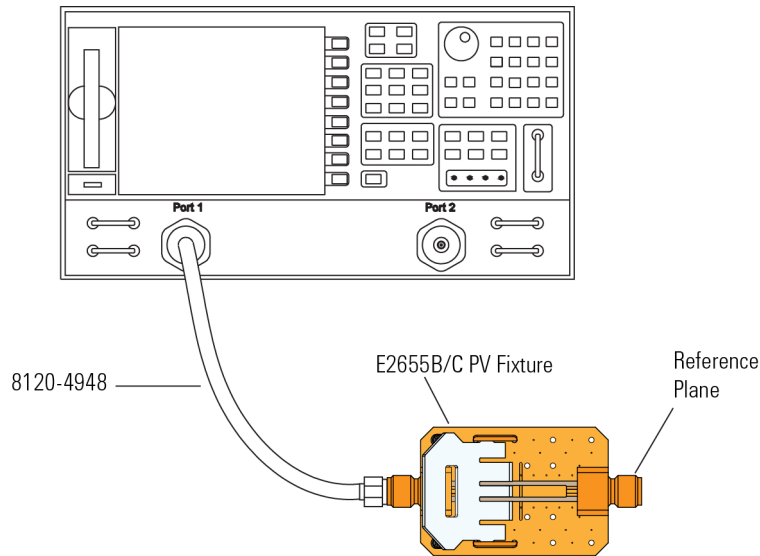

Figure 17 PV Fixture Connected to VNA
- 10 Connect the PV fixture to the **Port 1** on the VNA using a high quality SMA cables. Connect the cable to the pincher side of PV fixture as shown in Figure 17 on page 42.